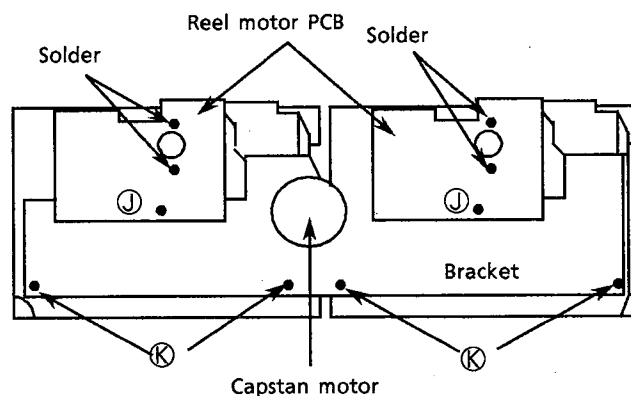

Fig 13
3. Remove the screws ㊶ and the bracket (Fig 13).